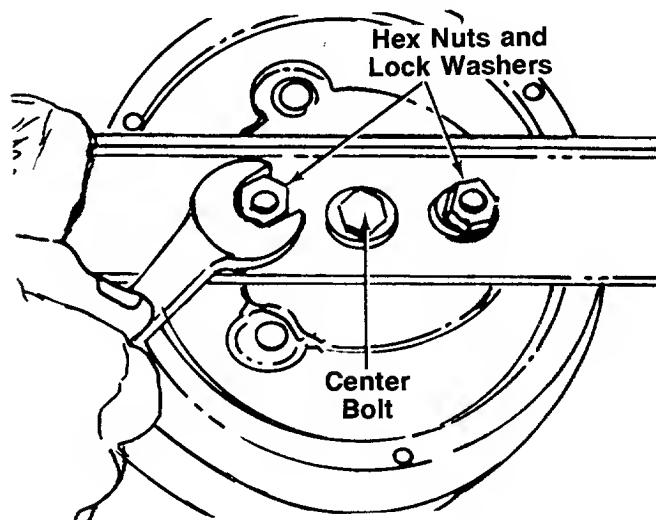

FIGURE 13.
To remove the cutting blade for sharpening or replacement, remove the two hex nuts and lock washers which hold the blade to the blade brake/clutch. Protect hands by using heavy gloves or a rag to grasp the cutting blade. See figure 13.
9. Tip the mower on its side. Remove the blade by removing two hex nuts and lock washers. Refer to figure 13.